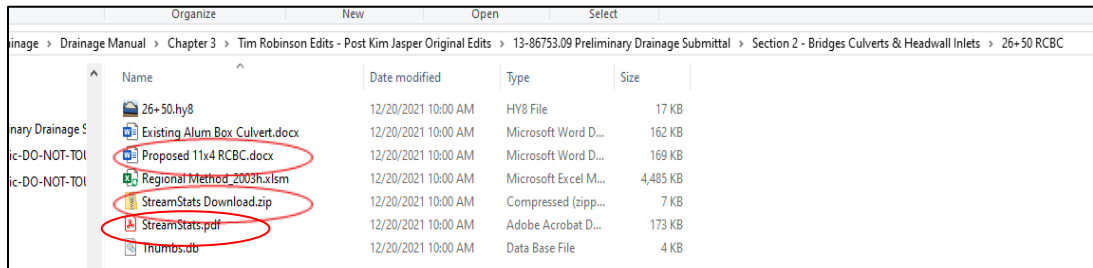

Figure 302-5 Subdirectory for Projects Without a CADD Source File
- ◆ For projects that do not have a CADD source file, the individual hydrologic source will be included in the subdirectory for the specific drainage structure. This includes KYTC spreadsheets used to calculate design flow derived from the rational method, USGS Regional Method, StreamStats, and others (Figure 302-5).